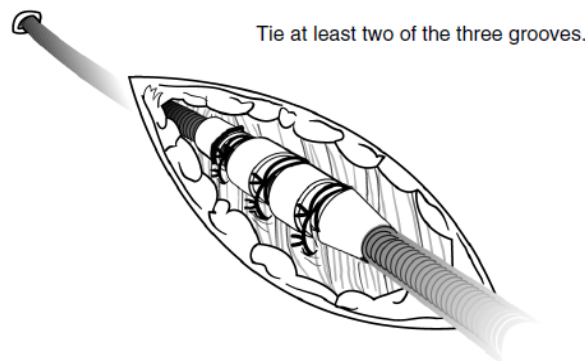

Figure 19
- Peel back the introducer sheath and slide the suture sleeve deep into the tissue (*figure 19*).